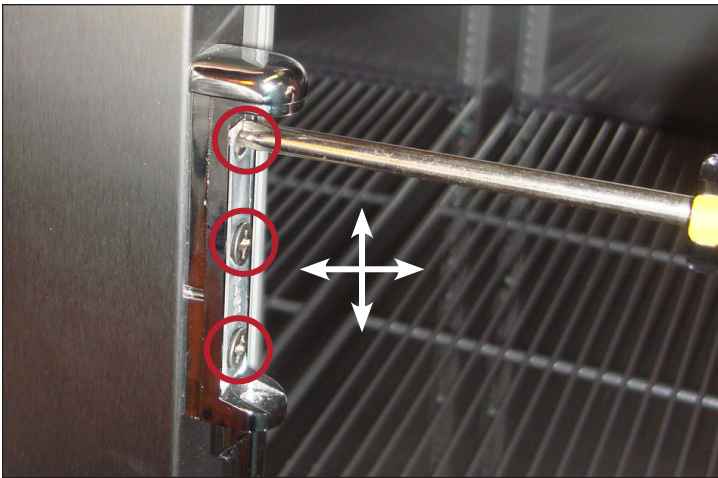

Fig. 4. Door hinge screw locations. Adjust the hinge up, down, or sideways.
6. Loosen (DO NOT remove) the door hinge screws. See fig. 4.